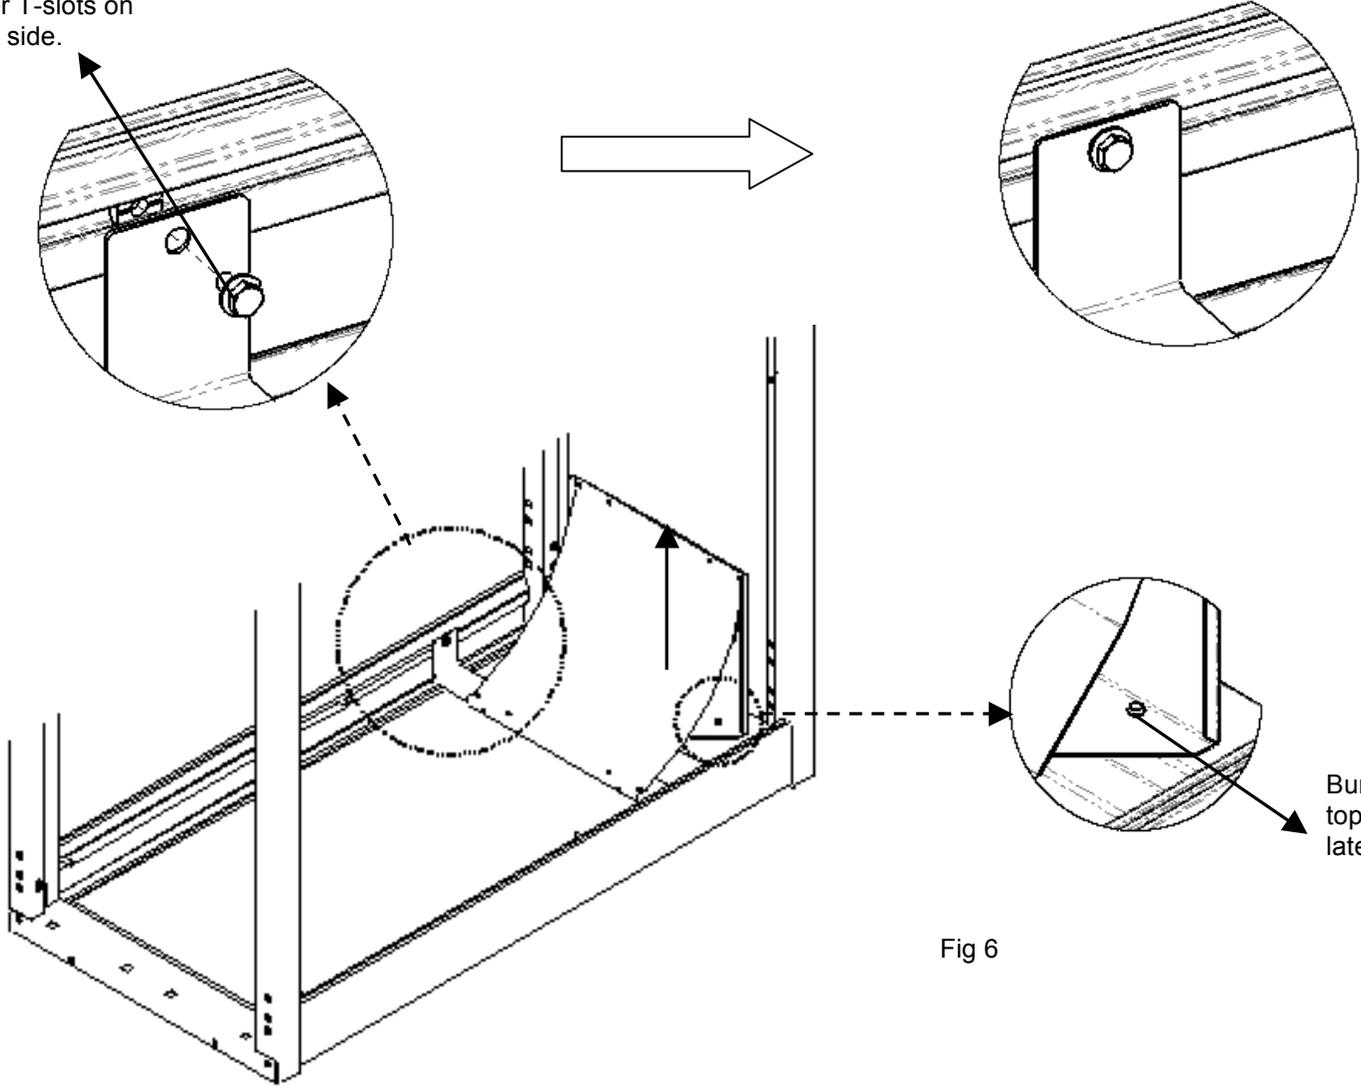

Fig 6
2. Attach Air Director to the frame: Install the M6 Drop-In nuts in the upper T-slots of the lower slide as shown in (Fig 5). Position the Air Director as shown in (Fig 6, page 2) and install the M6x10 Hex Screw through side flange holes and into the drop-in nuts. The director is adjustable front to back. Push the Air Director to the rear until the bracket is resting on the rear frame. Tighten the M6 screws.